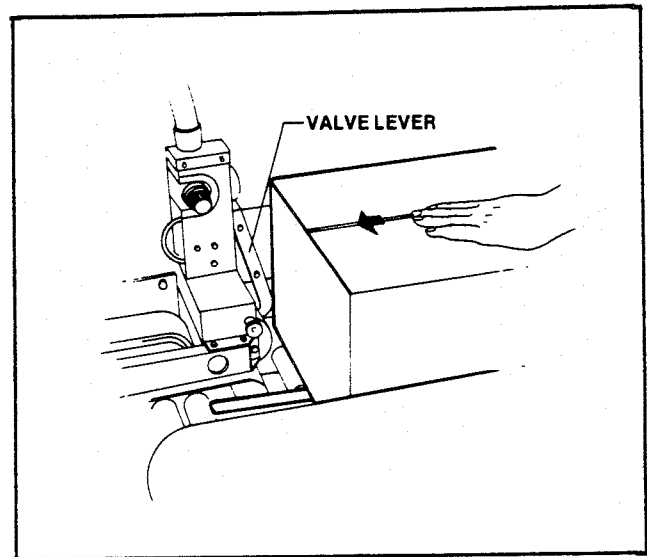

Figure 17 - Top Taping Head Valve Lever
2. Once the box is centered by the side guides, the operator pushes the box against the valve lever on the top taping head, as shown in Figure 17, causing the top taping head to be raised by two air cylinders. The top taping head will continue to rise above the box height so the operator can insert the box underneath the top taping head drive belts.